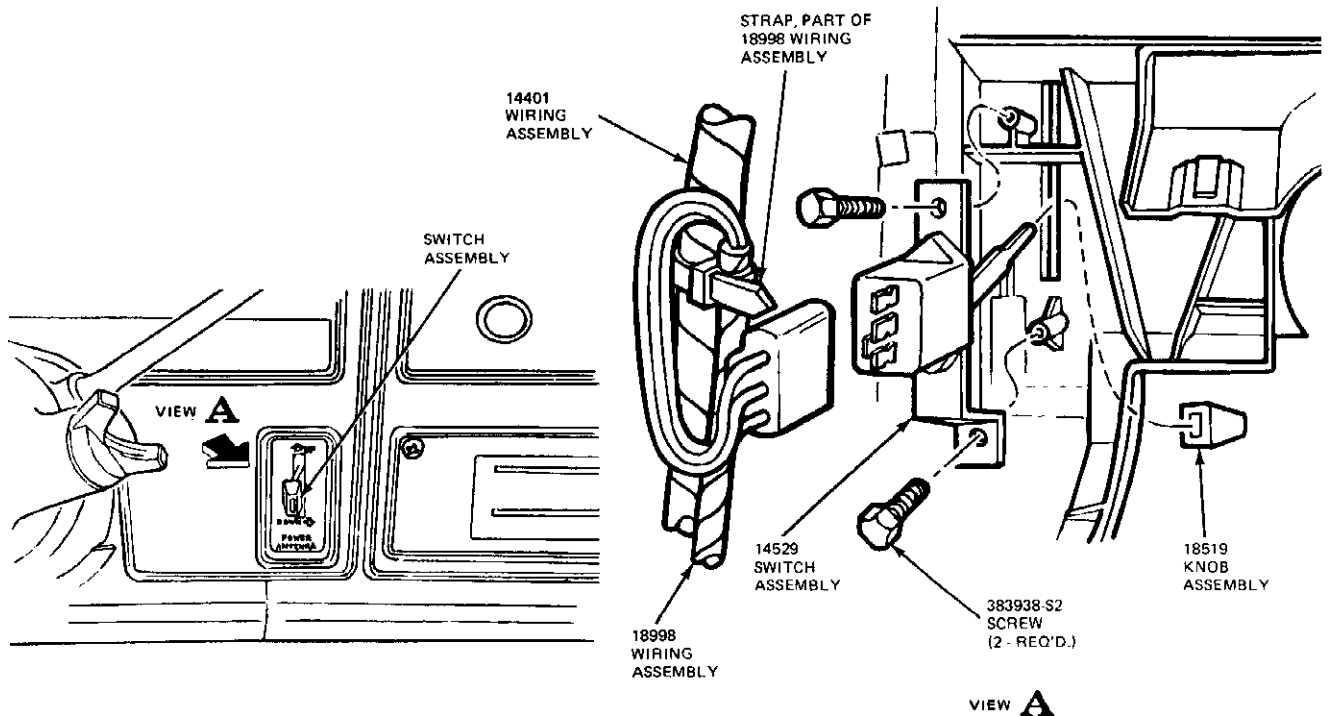

FIG. 6 Antenna Switch Installation—Mercury
3. Disconnect the switch wires at the connector (Fig. 6).